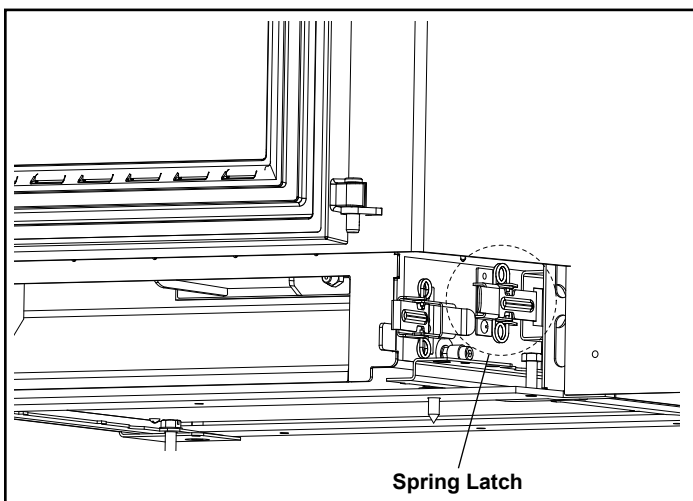

Figure 2.16
Once the unit is shut down and cooled, unplug the unit from its power supply. Behind each side panel release (1) spring latches that holds the unit to the inserts cage. Figure 2.16.